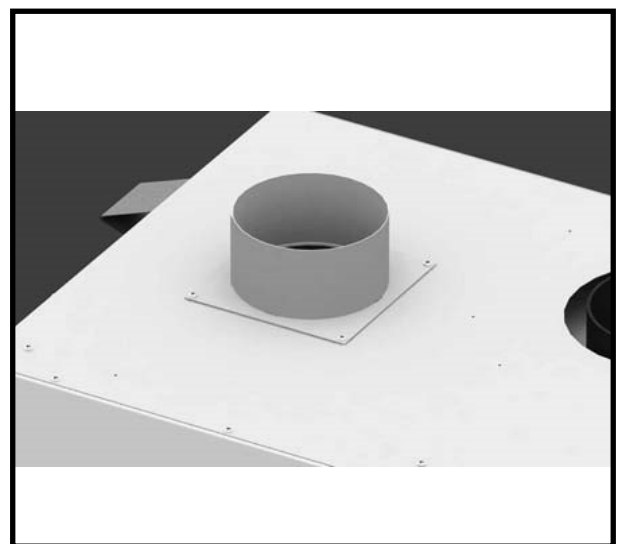

Figure 24: Duct collar.
4. Attach the Duct Adapter to the top of the fireplace over top of the Backflow Damper (Figure 24). Using 4 screws secure both pieces to the Fireplace's outer casing.